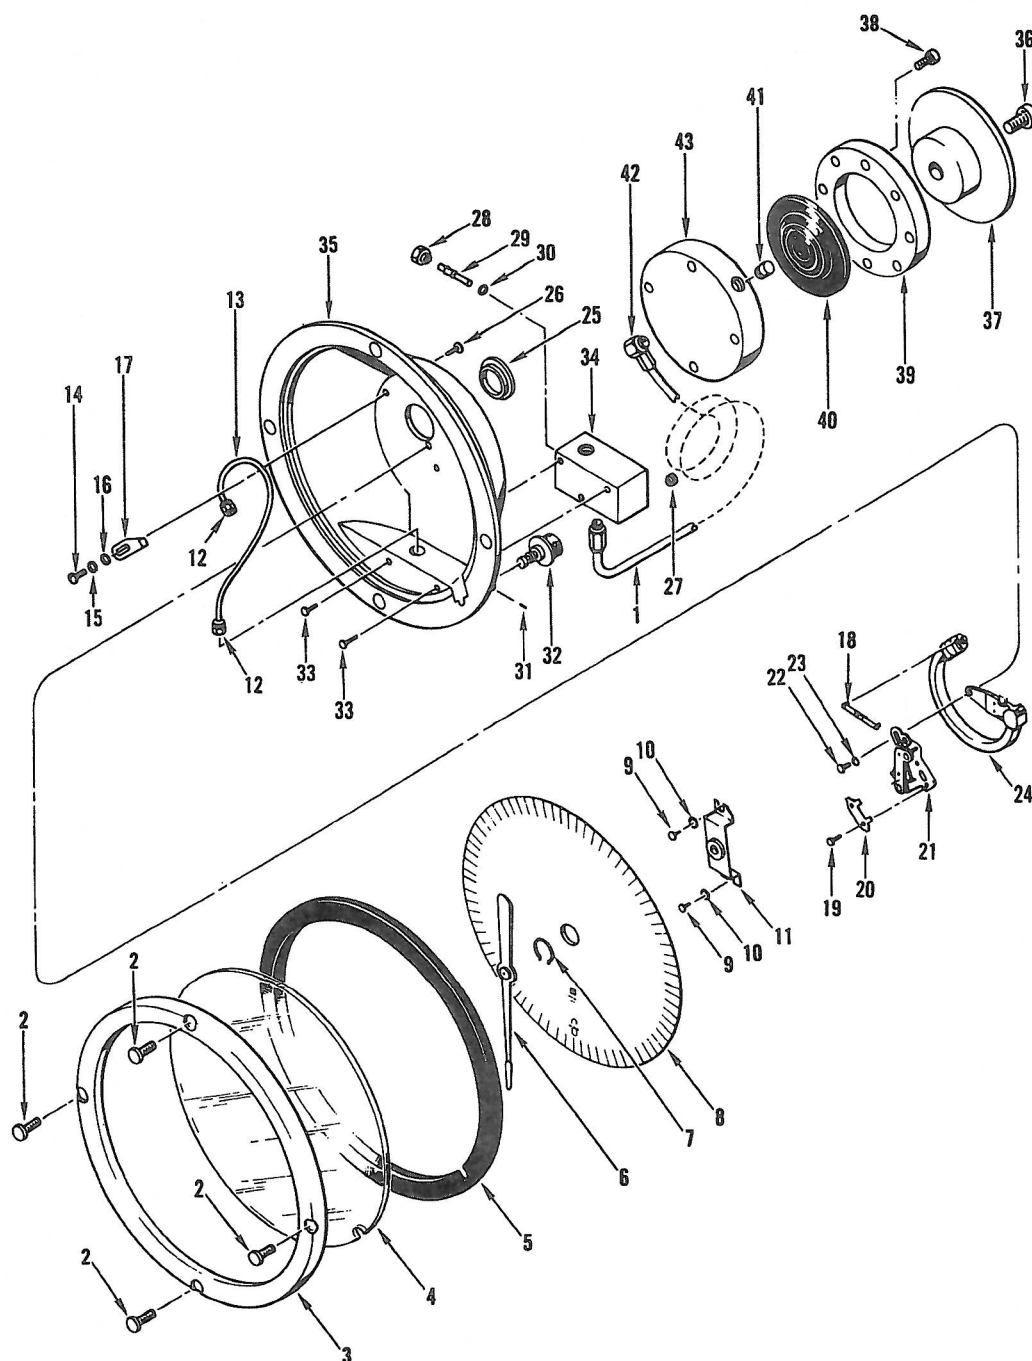

Figure 2.9. Hydraulic Gauge; Exploded View
Following is the breakdown, in disassembly sequence, of a typical 12-inch gauge. Other sizes contain the same parts, but they may be in different locations from those in the 12-inch gauge. Figure 2.9 illustrates a typical Hydraulic Gauge, Exploded View.
Following are instructions for replacing "O"-ring (30) on the damper stem (29) illustrated in Figure 2.9.
a. Unscrew damper stem nut (28) and damper stem (29) from damper body (34).
b. Remove old or damaged "O"-ring (30).
c. Lubricate new "O"-ring with grease or vaseline. Slip "O"-ring over screwdriver end of stem (29), working it up and over shoulder into groove.
d. Reinstall damper stem nut (28) and damper stem (29) on damper body (34).
During reassembly or replacement procedures, apply lubricants as follows: (refer to Figure 2.9).
Following is the breakdown, in disassembly sequence of a typical load cell assembly. Various attachments and sizes may cause the load cells to differ somewhat in configuration. Refer to Figure 2.9.
2.43 REPAIR OR REPLACEMENT (Refer to Figure 2.9.)